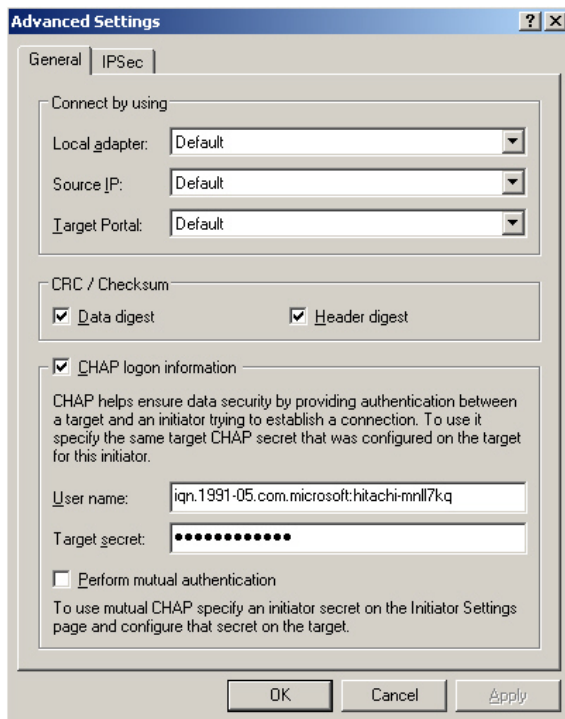

Figure C.15 Advanced Settings – Screen 2
16. If the CHAP authentication will be performed at login from this initiator, click CHAP Logon Information. Then enter the username and target secret in the appropriate fields (see Figure C.15). The length of the secret security key must be from 12-characters (96 bits) to 16-characters.